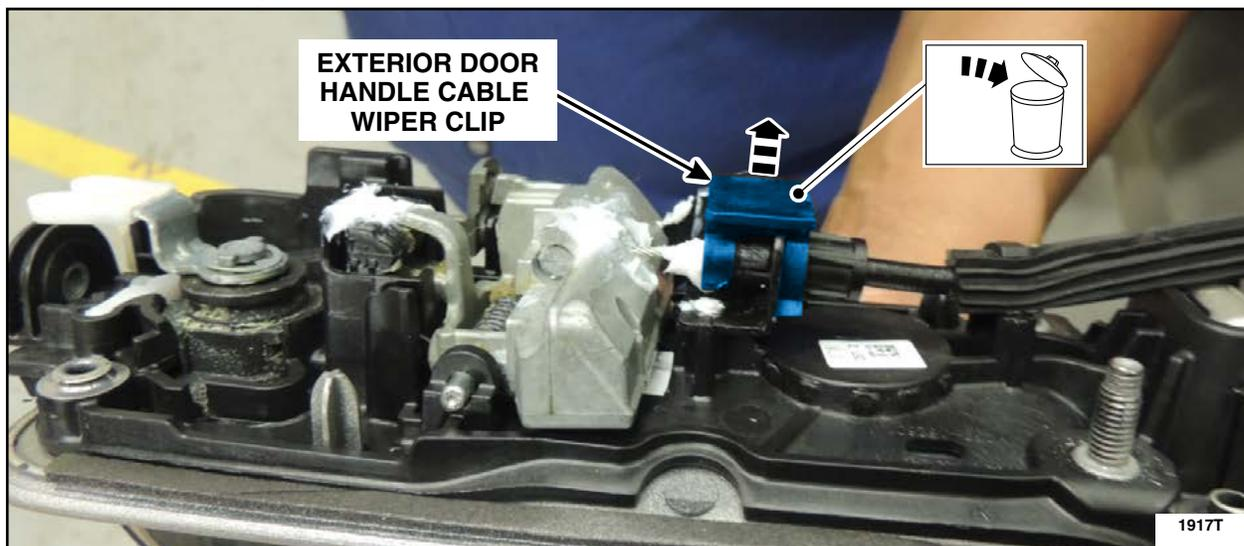

FIGURE 33
2. If a cable wiper clip is present on the exterior door handle cable end, remove and discard the cable wiper clip. See Figure 33.